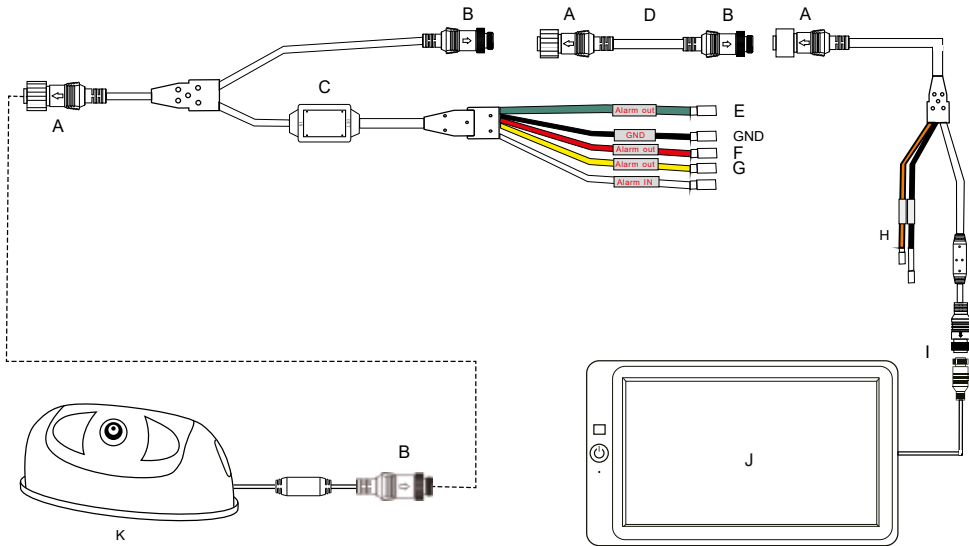

Abb. 4: Connection of the adapter with 3 alarm outputs
- **Adapter 4:** Alarm outputs for 3 zones (Fig.4)